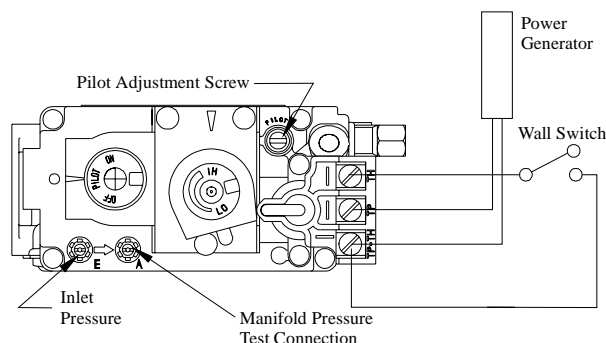

Figure 12 Sit Nova 820 gas valve.
- Have the fireplace installation inspected yearly, including a visual check of the vent system, the burner and the pilot flame. For your convenience a 1/8" manifold pressure tap is supplied on the gas valve for a test gauge connection. See Figure 12.
1. Locate Pilot Adjustment Screw. (See figure 12.)
Pilot won't ignite	Disconnect remote wires and try to light pilot. If pilot now works, remote connections are faulty. Check wiring diagram figure 12.
Main burner will not light	1. Check wiring (see figure 12). 2. Check wall switch for proper connection.